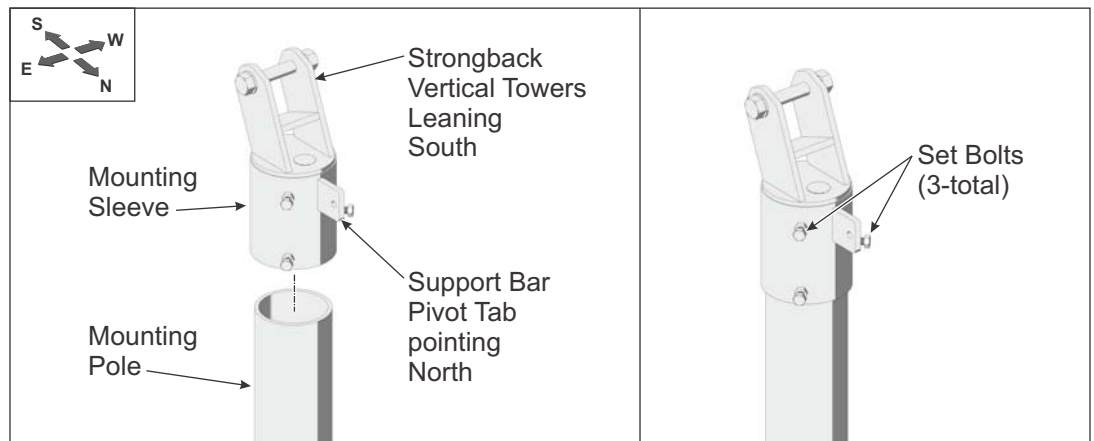

Figure 3-1: Installing the Mounting Sleeve
- A. Slip the Mounting Sleeve on top of Mounting Pole and slide it down until it rests/bottoms out on top of Mounting Pole. (See Figure 3-1)